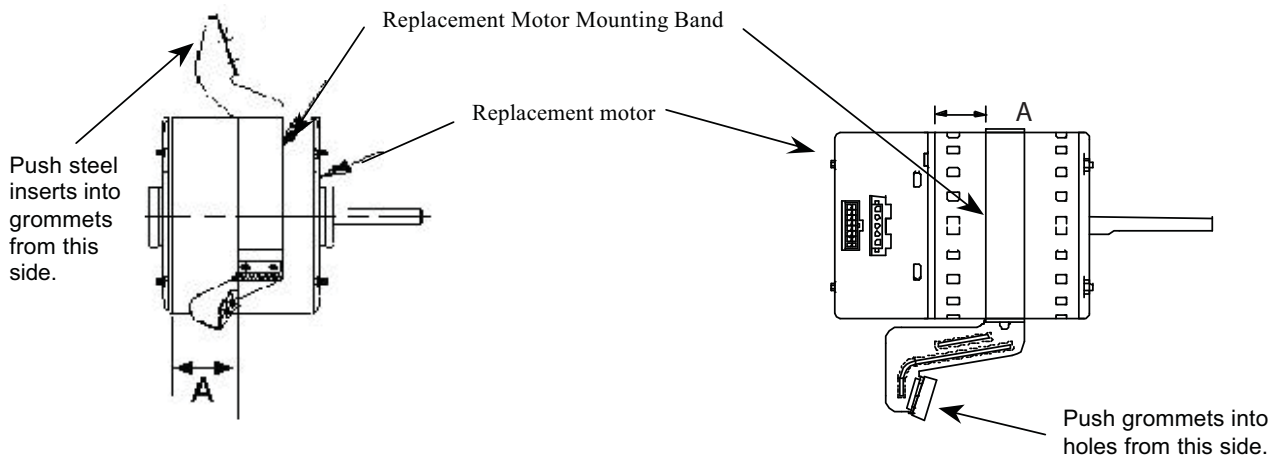

Fig. 1 - Dimension "A" Motor Mounting Band Location
1. Verify that the grommets and inserts (if used) are inserted in the mounting legs correctly per Fig. 1.
2. Place the motor mount around the mid-section of the motor. Position the motor around the mid-section of the motor as shown in Fig. 1.
3. Align the motor mounting arms as shown in Fig. 1. See Table 1 for the correct Dimension “A”, as shown in Fig. 1